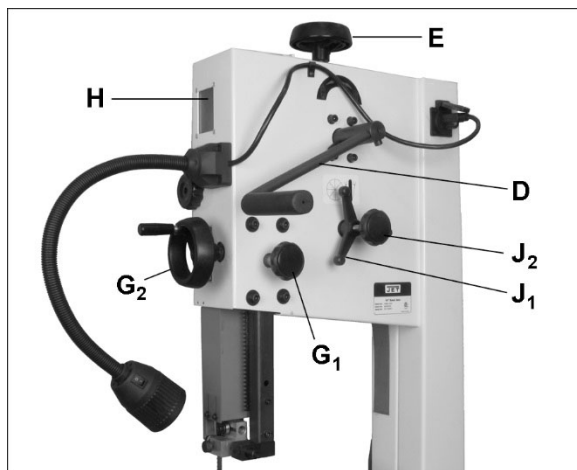

Figure 5-7 (shown with optional lamp)
4. Raise quick tension lever (see D, Figure 5-7) to release position. If needed, rotate tension handwheel (E, Figure 5-7) counterclockwise for further detensioning.
Refer to Figures 5-7 and 5-8.
1. Lower tension lever (D, Figure 5-7) to tension position.
2. Set proper blade tension by rotating handwheel (E, Figure 5-7), clockwise to tighten, counterclockwise to loosen.
4. Loosen guide post locking knob (G₁, Figure 5-7) and use handwheel (G₂) to lower guide post until you can see blade through tracking window (H).
7. If blade tends to migrate toward left or right edge of wheel, loosen locking handle (J₁, Figure 5-7) counterclockwise, and rotate tracking knob (J₂) with your right hand while continuing to rotate wheel with your left.
3. Lower blade tension lever (see D, Figure 5-7) to tension position.